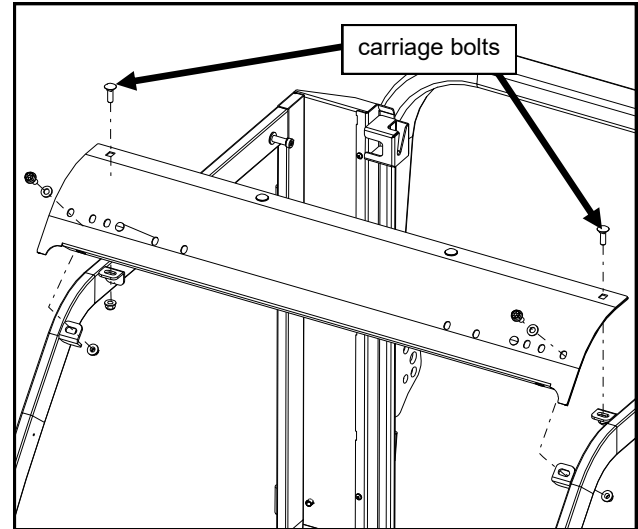

Fig. 11.11 (windshield support installation)
**11.11** Install windshield support, inserting the (2) carriage bolts thru the top flange and the (2) Flange Hex Screws and Plastic washers thru the bottom flange. See fig. 11.11.